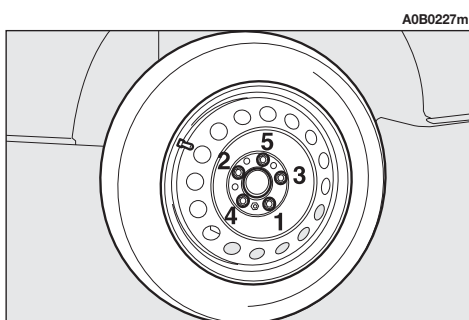

fig. 8
– Fully tighten the bolts in the sequence shown in **fig. 8**, without refitting the cap.